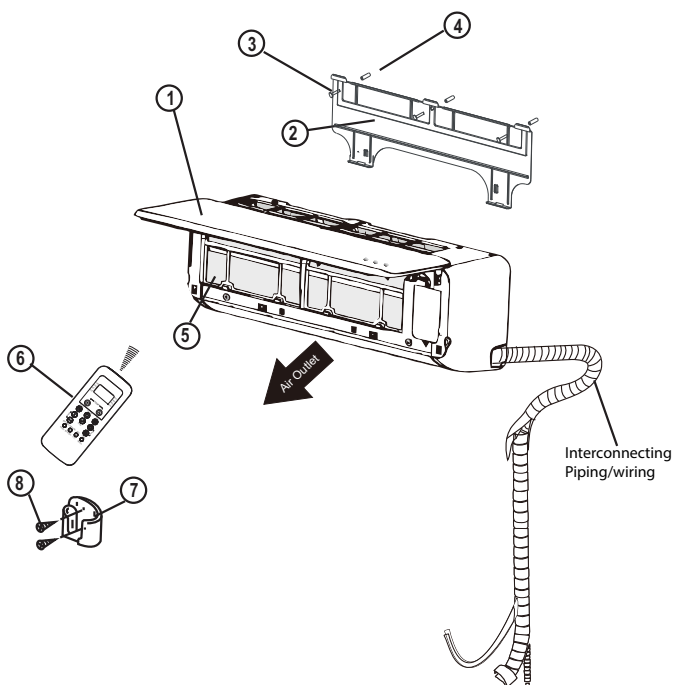

Fig. 3 — Parts List
- The illustration above (Fig. 3) is only a sketch. Different models may be differ slightly.